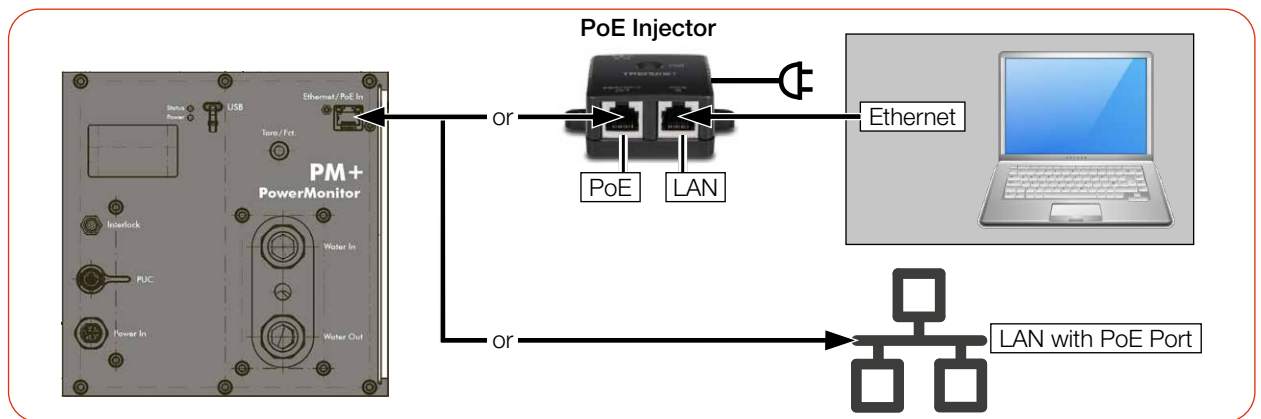

Fig. 8.5: Power supply and data transfer via PoE In
- ▶ Connect the cables according to Fig. 8.5 on page 29.